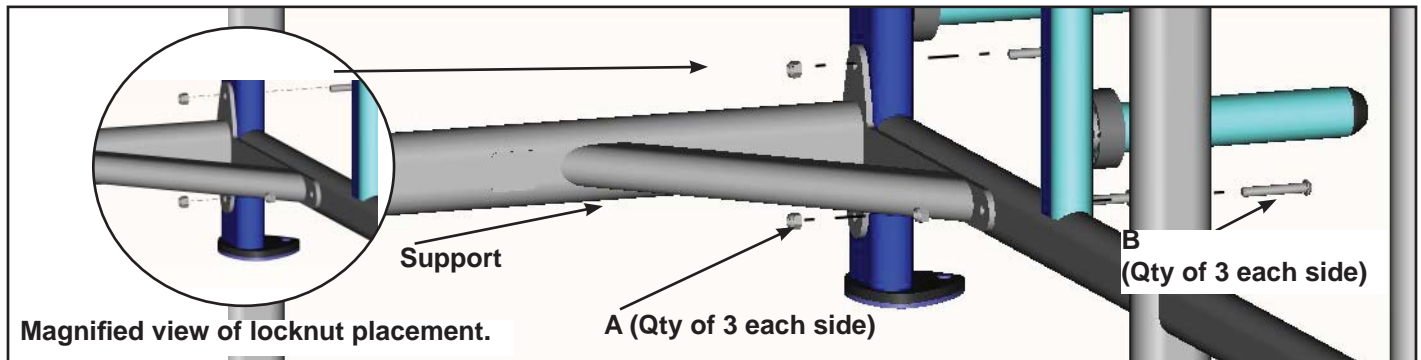

Figure 3
- D. Using a 7/32" Allen wrench and a 9/16" wrench secure cross tube in place with the four (B) BHSCS and (4) A locknuts from shipping package.
- E. Place support in position. See Figure 3.
- F. Using a 7/32" Allen wrench and a 9/16" secure support to frame with the six (B) BHSCS and (6) (A) locknuts from shipping package. See Figure 3.